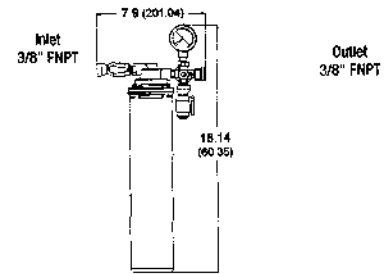

Figure 5 – Single System
1. Use the predrilled mounting holes in the manifold bracket as guides. Mark and drill anchor holes. Mount securely. See Figures 5 – 8.
8. Open the flushing valve and flush the cartridge(s) by running water through at full force for five (5) minutes. This will set the filtering media and purge air and fines, insuring maximum filter life. See illustrations.